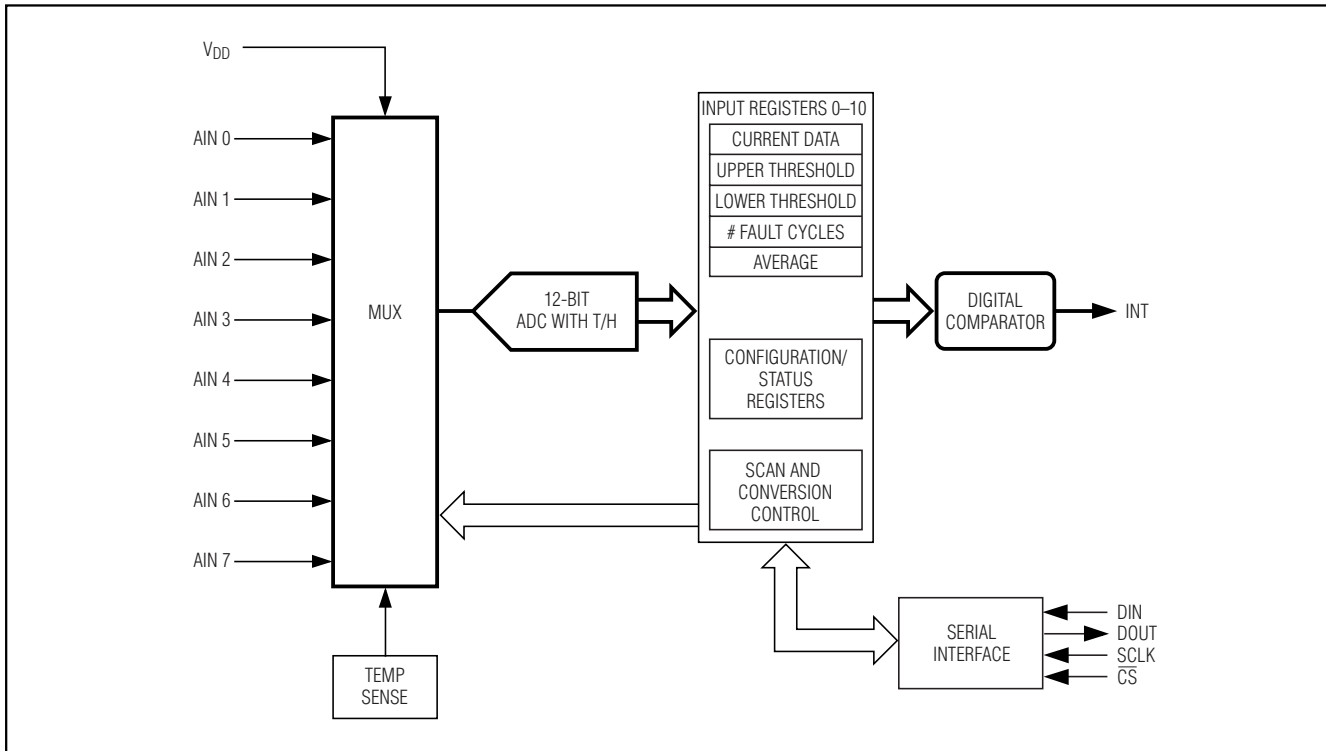

Figure 3. Simplified Alarm Block Diagram of the MAX1153/MAX1154
- Note 6:** See Figure 3 and the Sampling Error vs. Input Source Impedance graph in the *Typical Operating Characteristics* section.
The MAX1153/MAX1154 are precision-monitoring integrated circuit systems specifically intended for stand-alone operation. They can monitor diverse types of inputs, such as those from temperature sensors and voltage signals from pressure, vibration, and acceleration sensors, and digitize these input signals. The digital values are then compared to preprogrammed thresholds and, if the thresholds are exceeded, the processor is alerted by an interrupt signal. No interaction by the CPU or microcontroller ( $\mu\text{C}$ ) is required until one of the programmed limits is exceeded (Figures 3 and 4).